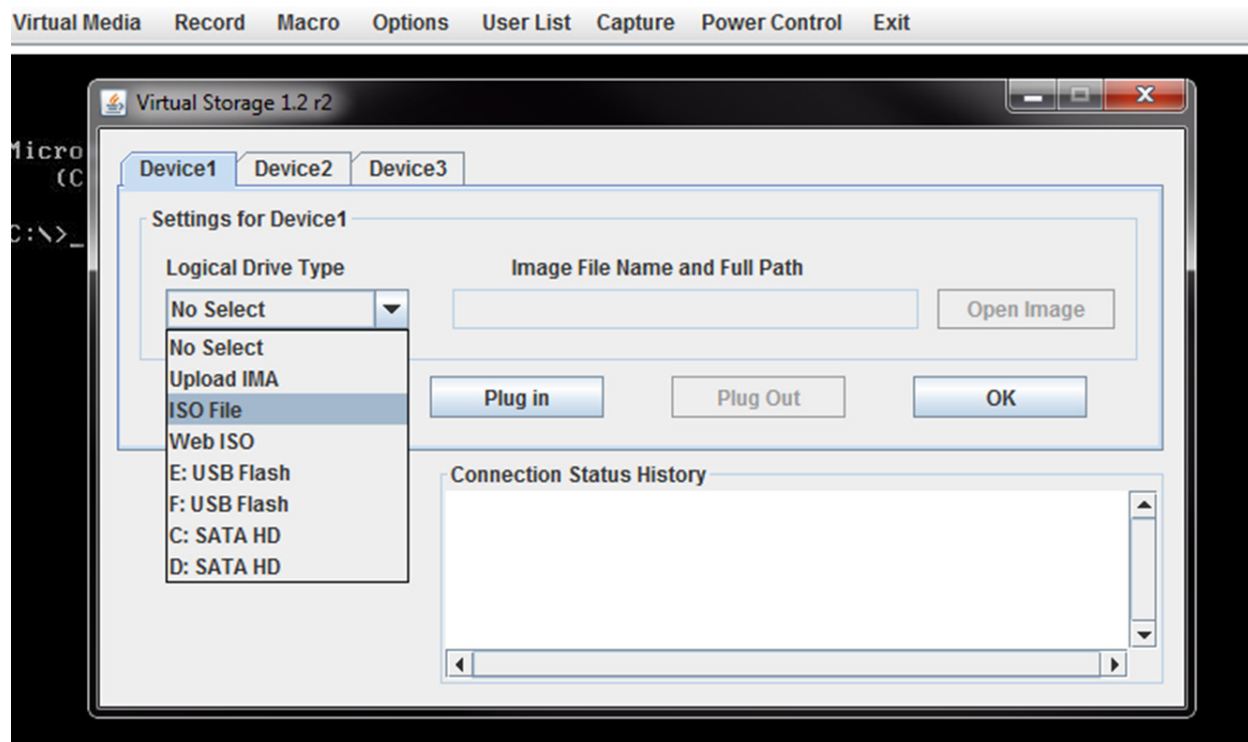

Figure A-5. Selecting ISO File to Mount an ISO File
- Under the Device 1 tab of the Virtual Storage window, select ISO File from the Logical Drive Type menu if you wish to mount an ISO file (Figure A-5).